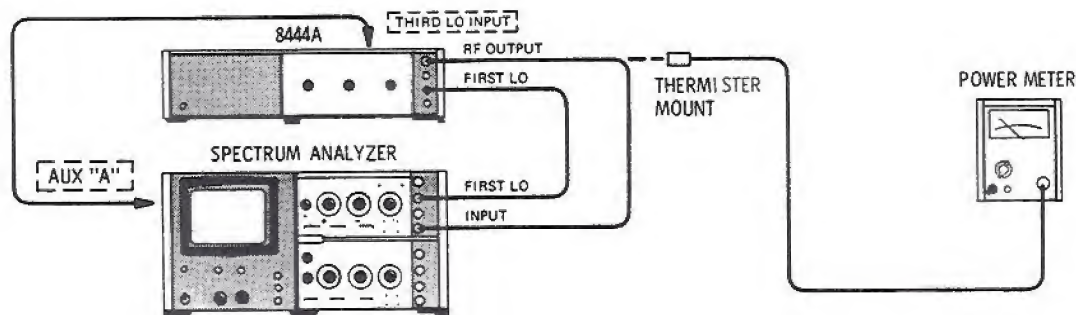

Figure 5-8. Level Control Calibration Check and Adjustment Test Setup
1. Connect test setup as indicated in Figure 5-8 and set controls as follows: